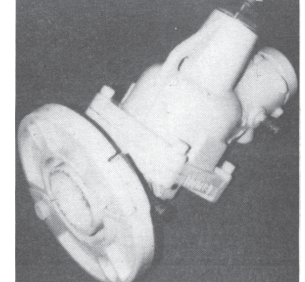

Fig. 3D
2. Apply silicon sealer/lubricant to the inner and outer diameters of the flange kit gasket, and press the gasket onto the valve body end. Ensure that the open end of the gasket is facing **AWAY** from the valve body (Fig. 3D).